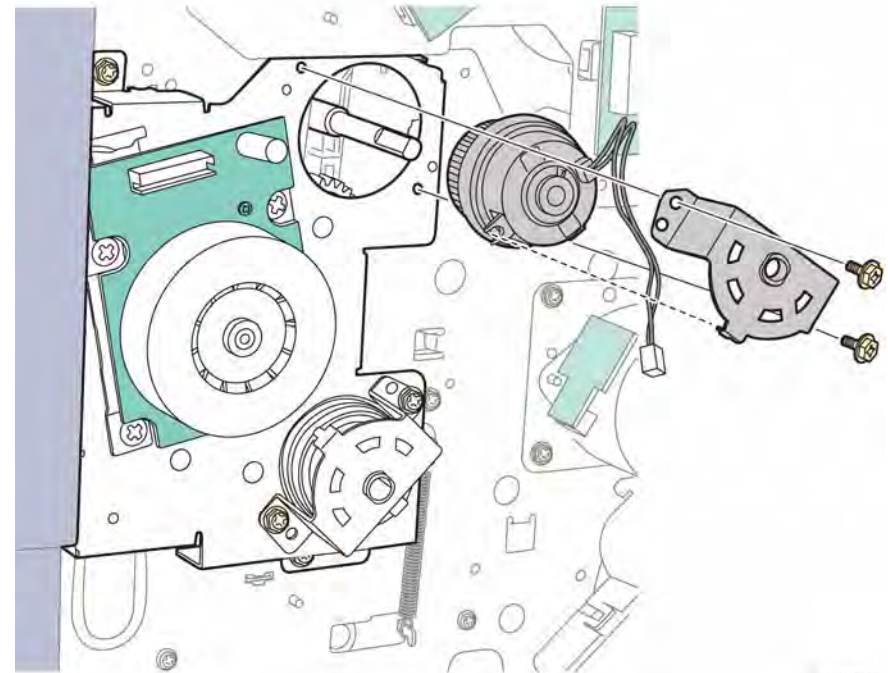

Figure 1 Remove the Registration Clutch
5. Remove 2 screws (Gold, metal) that secure the clutch bracket to the Feed Drive, Figure 1.